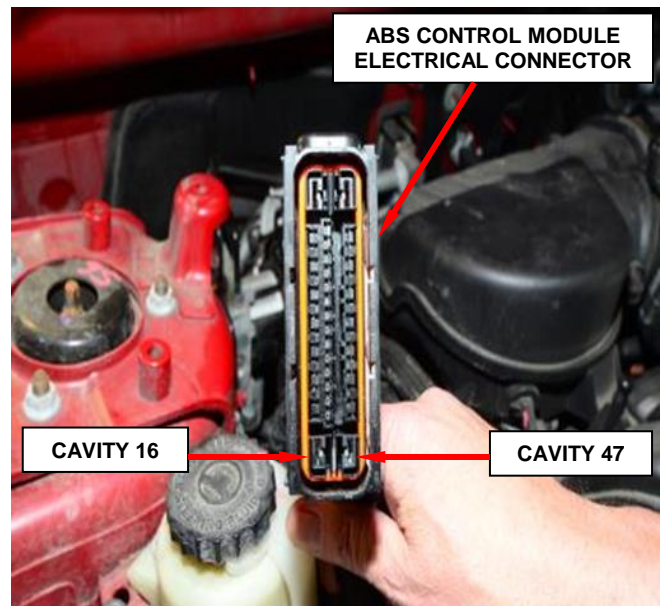

Figure 17 – ABS Control Module Electrical Connector
17. Install the two black ground terminals from the supplied ground circuit overlay into cavity numbers 16 and 47 of the ABS module electrical connector (Figure 17).